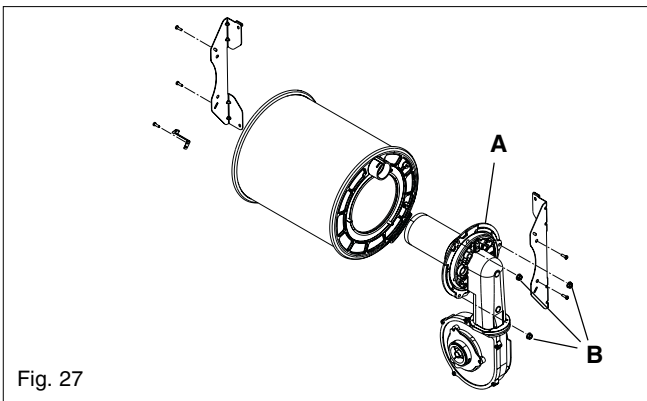

Fig. 27
Fig. 27: To remove the fan burner assembly (A) locate and remove the 3 external nuts (B). Replace in the reverse order. Ensure all seals are in good condition, taking care to ensure they are replaced correctly.